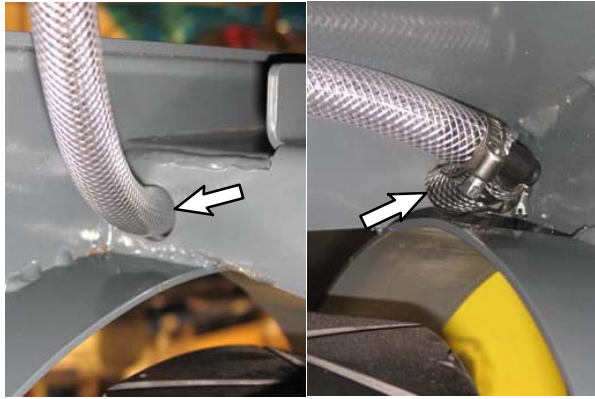
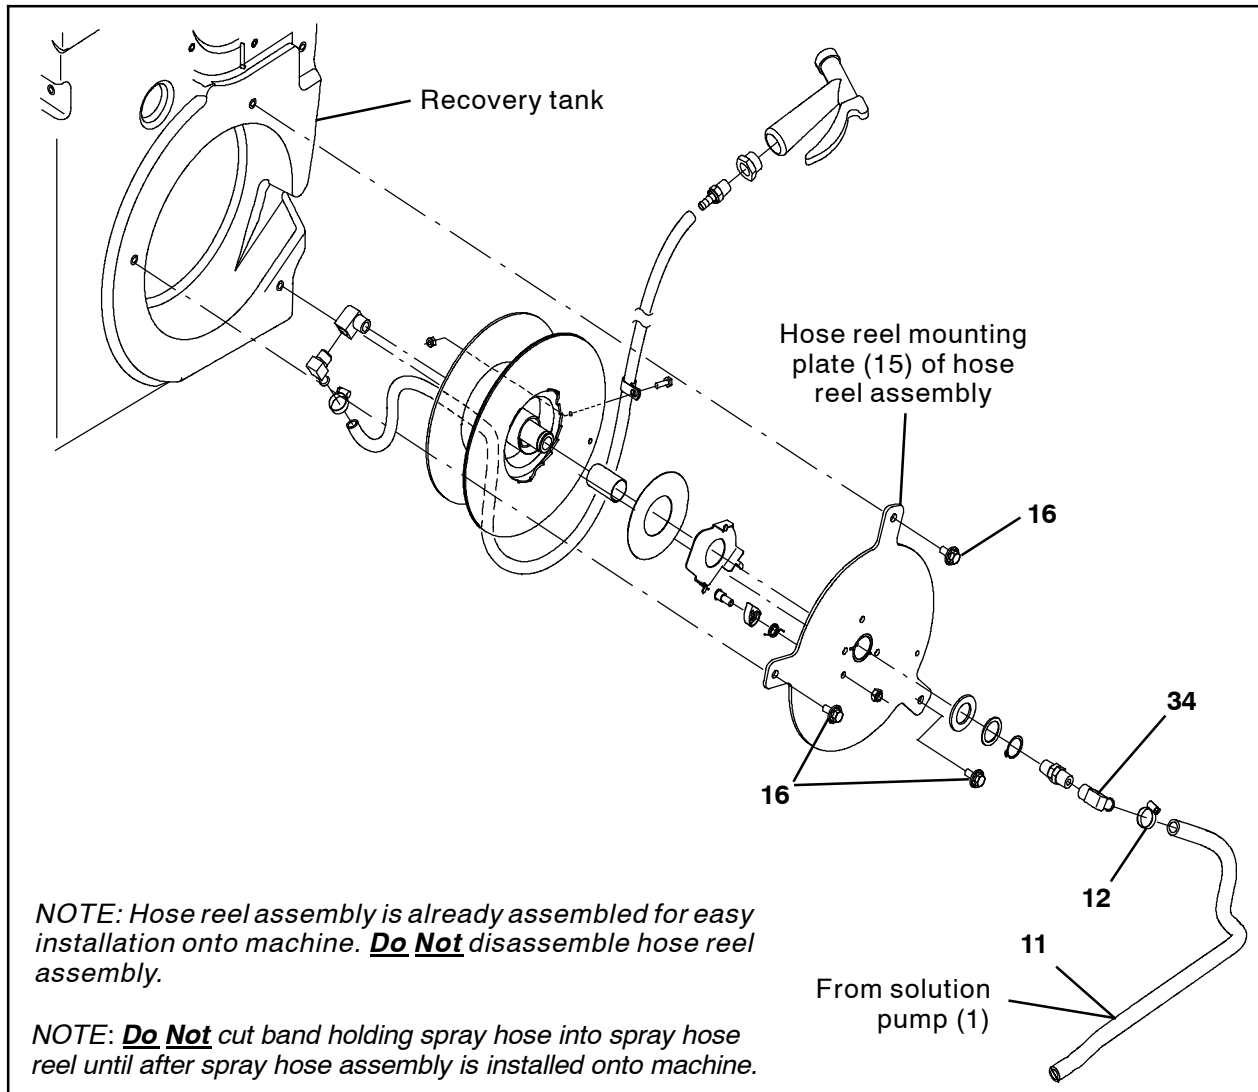

FIG. 8
FIG. 9
- Route the the 36 in. (914 mm) PVC hose (11) through the hole in the frame of the machine oriented to the rear of the machine and use a hose clamp (12) to connect the hose to the 90° plastic fitting (14) connected to the 42 in. (1067 mm) PVC hose (11). (Fig. 8)
- Use three M8 SEMS hex screws (16) to install the hose reel assembly onto the recovery tank (Fig. 9)
- Route the 36 in. (914 mm) PVC hose (11) up to the hose reel assembly and use a hose clamp (12) to connect the hose to the 90° brass fitting (34) on the hose reel assembly. (Fig. 8 / Fig. 9)